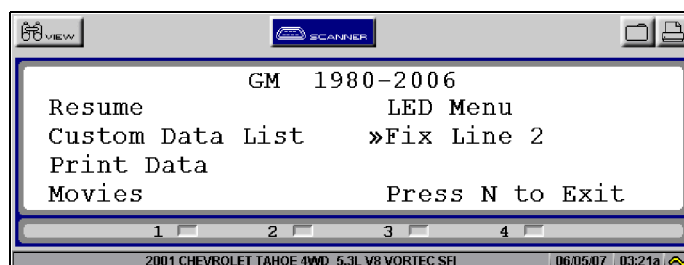

Figure 5-18 Sample Exit Menu with no data lines fixed
2. Press **N/X** to open the Exit menu (Figure 5-18).